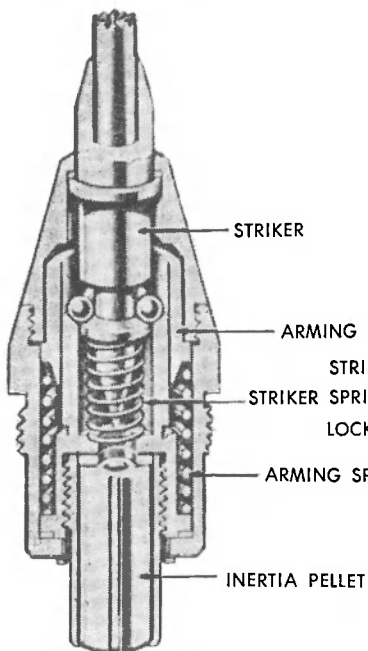

Figure 6 — Before Firing
**Fuze Mk 2** (Figures 6, 7, 8 and 9)